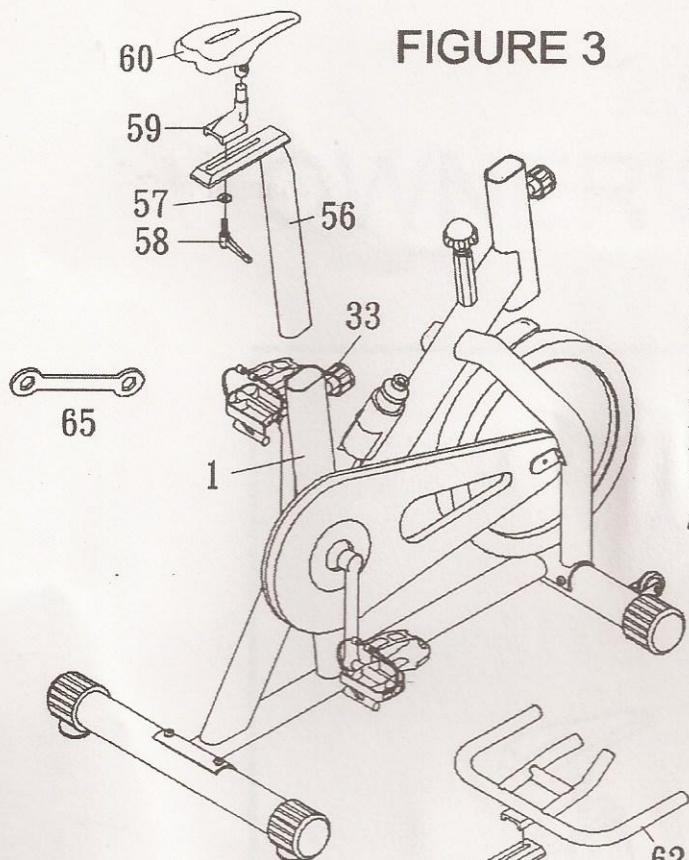

FIGURE 3
Insert the Seat Post (56) into the tube of the Main Frame (1) with Knob (33) as shown in Figure 3. *Hands tighten only at this time.*
Slide the Seat (60) on the bar of the Seat Adjustable (59) to tighten fist, then slide this set onto the Seat Post (56) with Washer (57) and Lock Knob (58) as shown in Figure 3.